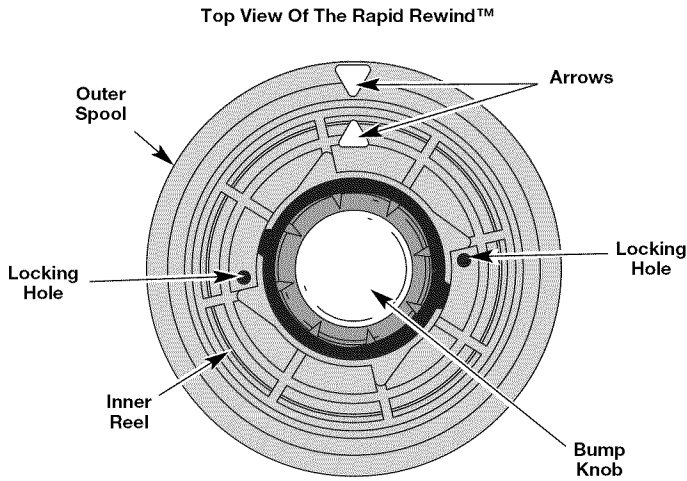
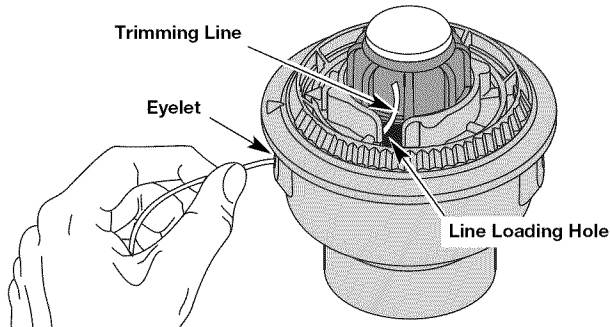

Fig. 11
Fig. 12
2. Hold the outer spool and turn the inner reel counterclockwise to line up the arrows on the outer spool and inner reel (Fig. 11).
3. Detach old line ends from locking holes (Fig. 11) and pull old line out through reel eyelets (Fig. 12).
4. Making sure arrows are aligned, insert the end of a piece of trimming line straight into one of the two eyelets in the outer spool. Push it up through the line loading hole in the inner reel (Fig. 12). Do not bend the line when inserting it into the eyelet.